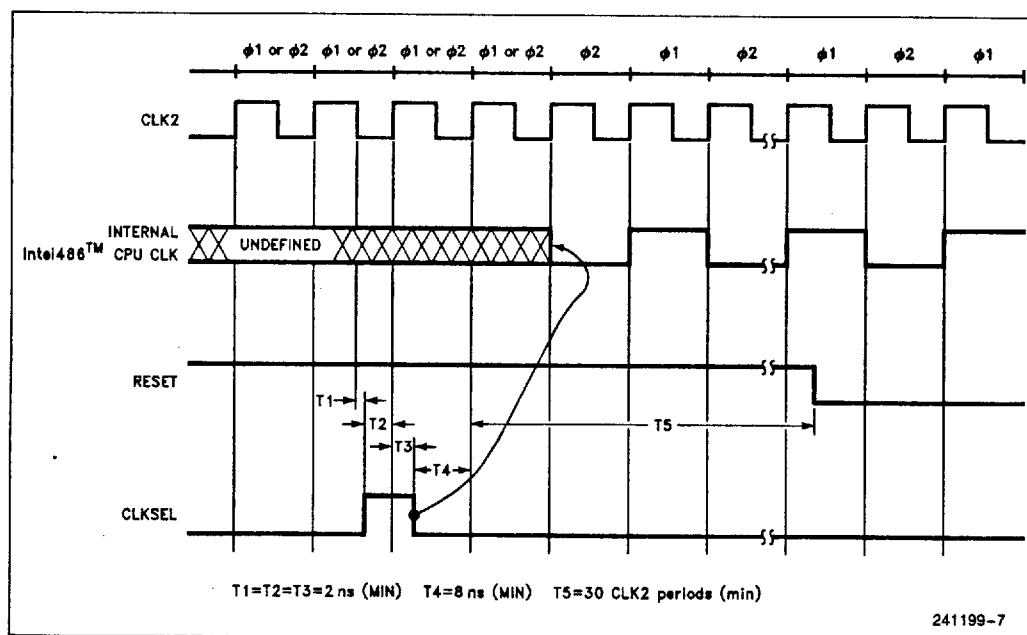

Figure 1-7. CLKSEL Timing Definition during Power-Up Reset
Figure 1-7 shows the detailed timing definition of this pulse. The pulse on CLKSEL pin is only required during power-up reset. During all other times including warm resets the CLKSEL pin should be driven low and must be free of spikes or glitches. After the power-up reset, the system must track the phase of CLK2 at all times including during warm resets so that the input/output signals can be sampled at the appropriate clock edge. The phase relationship is described in the next section.
1. Frequency can be changed at least 8 clocks after satisfying t_4 (see Figure 1-7). The system can be started at a lower frequency and after satisfying the CLKSEL pulse specifications, it can be operated at the required speed.